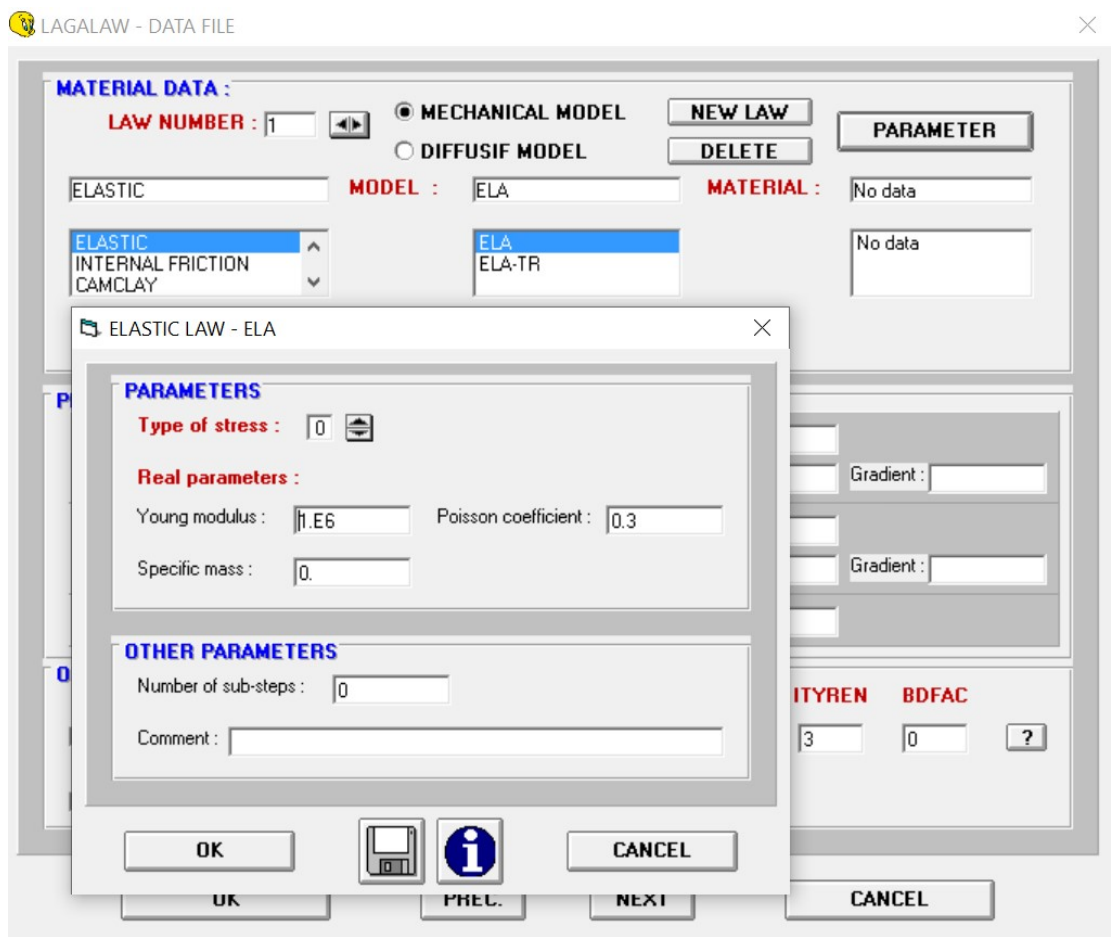

Figure 6.5 Parameters used for Ela.
1. Use a *ELA* model for the mechanical law of the *PLXLS* elements. Enter the parameters as shown in Figure 6.5. Namely, **Data** → **Lagalaw** → **ELASTIC** → *ELA* model for the mechanical law of the *PLXLS* elements. Enter the parameters by clicking **Parameter** then filling the table as shown in Figure 6.5. Click OK.